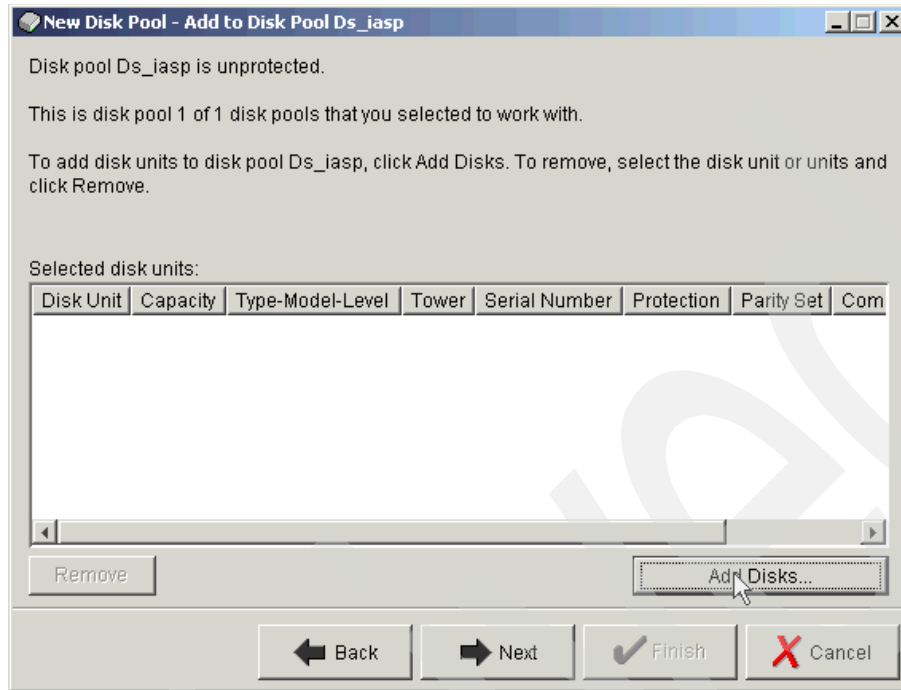

Figure 17-12 Add disks to disk pool
- Now you need to add disks to the new disk pool. In the Add to Disk Pool window, click **Add Disks**, as shown in Figure 17-12.